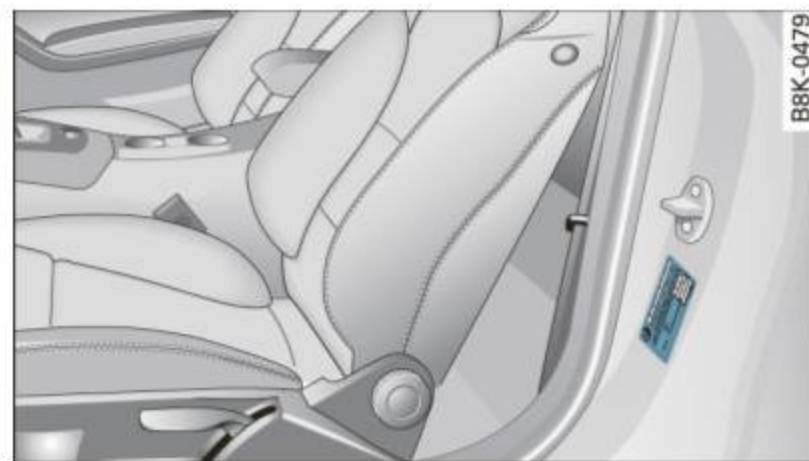

Fig. 212 Tire pressure label: located either on driver's side B-pillar or inside the fuel filler flap
See the illustration ⇒ page 295, fig. 212 for the location of the label either on driver's side B-pillar or inside the fuel filler flap (color of the actual label and exact location on the vehicle will vary slightly).
Remember, your safety and that of your passengers also depends on making sure that load limits are not exceeded. Vehicle load includes everybody and everything in and on the vehicle. These load limits are technically referred to as the vehicle's Gross Vehicle Weight Rating ("GVWR"). The Gross Axle Weight Rating ("GAWR") is the maximum load that can be applied at each of the vehicle's two axles. The Gross Vehicle Weight Rating and the Gross Axle Weight Rating are listed on the safety compliance sticker label located either on the driver's side B-pillar or on the inside of the fuel filler flap. The tire pressure label on your Audi lists the maximum combined weight of all of the occupants and luggage or other cargo that the vehicle can carry. For the location of the tire pressure label ⇒ *page 295, fig. 212.*
The tire pressure label on your Audi lists the recommended cold tire inflation pressures at maximum capacity for the new, original equipment tires that were on your vehicle at the time it was manufactured. For the location of the label ⇒ *page 295, fig. 212.*
The tire pressure label on your Audi also lists the maximum combined weight of all of the occupants and luggage or other cargo that the vehicle can carry. For the location of the label ⇒ *page 295*, fig. 212. ►
1. Locate the statement “THE COMBINED WEIGHT OF OCCUPANTS AND CARGO SHOULD NEVER EXCEED XXX KG OR XXX LBS” on your vehicle’s placard (tire inflation pressure label) ⇒ *page 295, fig. 212.*
3. Subtract the combined weight of the driver and passengers from “XXX” kilograms or “XXX” pounds shown on the sticker ⇒ *page 295, fig. 212.*